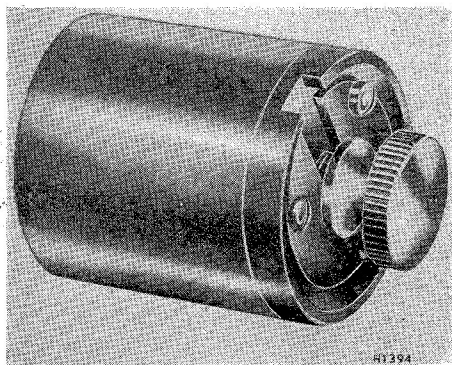

Fig. 3. Selector bobbin
4. The end-casting houses the datum trimmer control, the plug-in datum temperature selector bobbin (*fig. 3*), two selector relays and the following electrical connections:—
14. Various datum temperatures are selected by suitable choice of the plug-in type of selector bobbin (*fig. 3*) which is inserted in the amplifier. Up to two datum temperatures can be selected depending upon the type of selector bobbin inserted. The bobbin incorporates two resistors ($R71$ and $R72$ in *fig. 8*) which form part of the C.J.C. bridge. Any one of the two datum temperatures are selected via change-over relays ($RL71$ and $RL72$ in *fig. 8*) which are operated from a 28V d.c. supply. The position of the contacts on relay $RL72$ determine the point on the resistance chain from which the reference voltage is taken. The datum selector control operates as follows:—